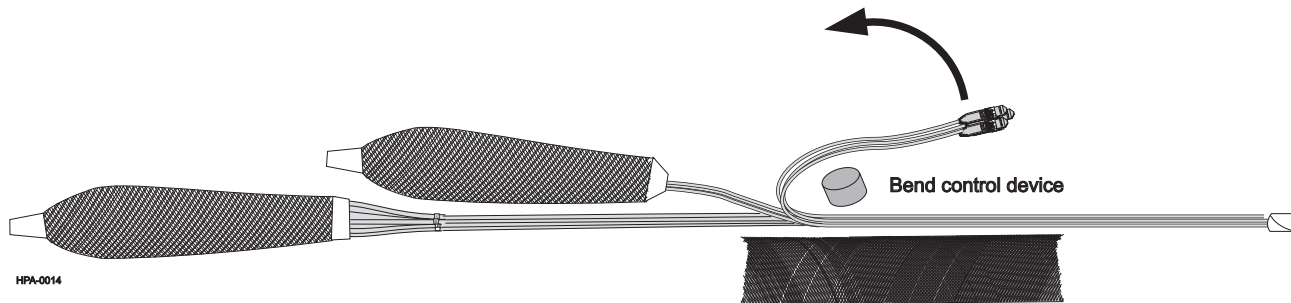

Figure 15
Step 8: Starting with the mesh bag closest to the furcation body, remove the tape and mesh to expose the first set of three folded legs (Figure 15). Unfold the legs from around the bend control device.